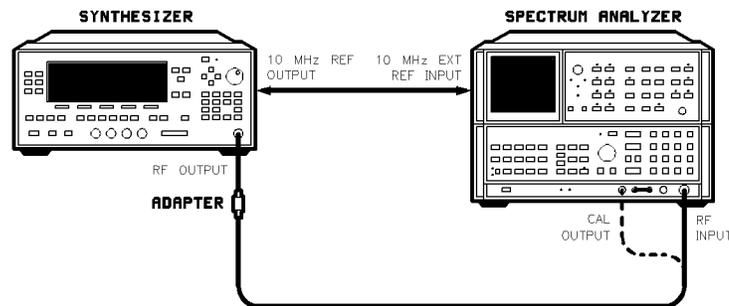

Figure 2-14. Pulse Modulation On/Off Ratio Test Setup
1. Connect the equipment as shown in Figure 2-14. Preset all instruments and let them warm up for at least one hour.